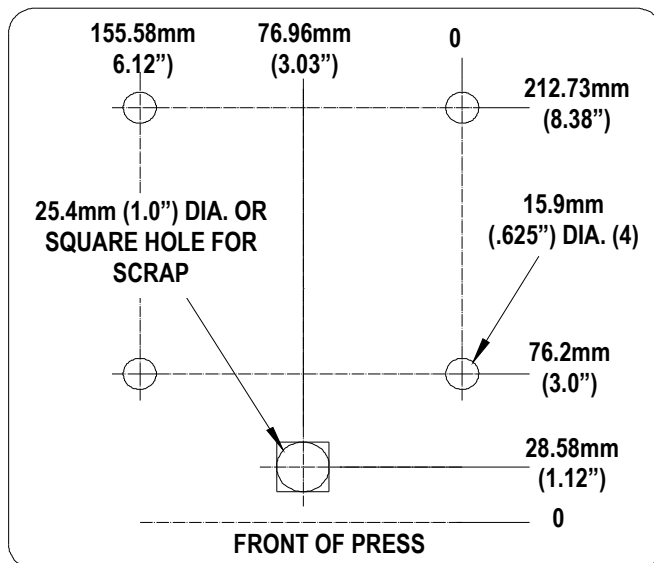

Figure 2-2
free operation. TM42 should be attached to the table with (2) 12.0mm bolts and washers. For marking the tabletop (See Figure 2-2), or use the removable template at the back of the manual. Drill the clearance holes for the 12.0mm bolts and secure the press to the table. Bolts are not supplied by Molex.